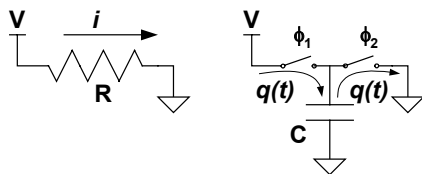

Figure 1: Moving Charge with Current Stimulus
Analog circuit design is all about controlling the movement of charge between voltage nodes. Figure 1 shows charge movement through a resistor and through a switched capacitor.
Equation (1) shows the current flow from a voltage potential to ground through the resistor shown in Figure 1: